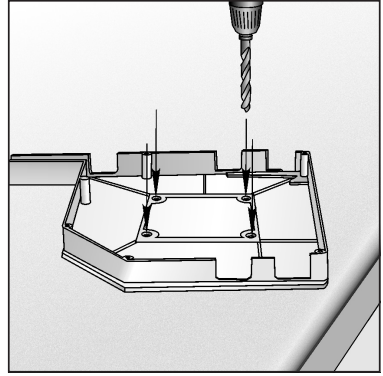

Fig. 02
- c) If SF250 and SF300 caps are used, fix SBB12/100 ball bearing support at the cap installed at the side opposite to the drive using four M6x15 screws with nuts; before that, it is necessary to drill four X6.5 mm through holes in the cap and to make counterbores for screw heads at the external side of the cap (Fig. 02 - 04);